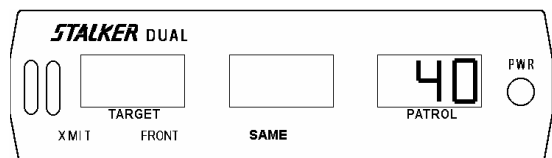
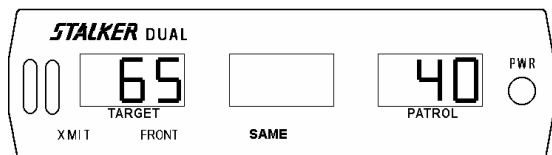

Fig 53
Fig 54
Two (2) tuning forks are supplied for **STALKER DUAL SL**. The tuning forks are calibrated for 25 mph and 40 mph (40 and 64 kph). To perform the tuning fork test, power the unit ON, select moving mode, and same lane mode. If the SLOW icon is present, press the **FASTEST** key to remove it. Select the front antenna, and place the unit in transmit mode. Strike both tuning forks against a hard nonmetallic surface, such as the heel of a shoe. Quickly hold the higher speed fork approximately two (2) inches in front of the antenna, with the narrow edge of the fork facing the antenna. The patrol window should indicate  $40 \pm 1$  mph (64 kph) (Fig 53). Move the lower speed fork in front of the antenna with the narrow edge facing the antenna. The target window should register 65 mph  $\pm 2$  (104 kph) (Fig 54), which is the sum of the speed of the two forks. Repeat the above test with the rear antenna selected, if installed. *Note: We recommend that the tuning fork test be performed on each antenna. Some departments perform this test both before and after each citation. Check your department policy.*